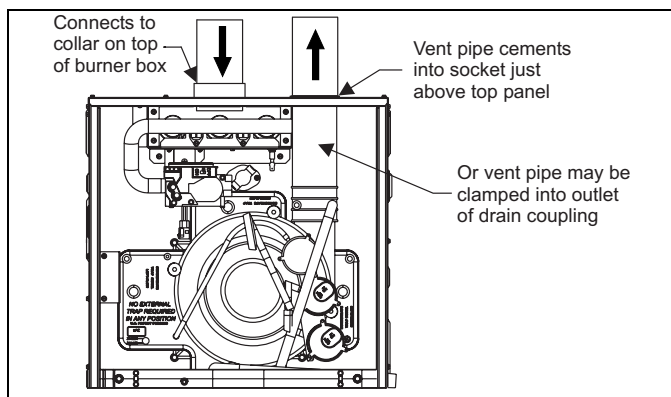

FIGURE 35: Direct Vent Air Intake Connection and Vent Connection
1. **OUTDOOR COMBUSTION AIR:** This is a direct vent configuration where the combustion air is supplied through a PVC or ABS pipe that is connected to the PVC coupling attached to the furnace and is terminated in the same atmospheric zone as the vent. This type of installation is approved on all models. Refer to Figure 35.
This installation requires combustion air to be brought in from outdoors. This requires a properly sized pipe (Shown in Figure 35) that will bring air in from the outdoors to the furnace combustion air intake collar on the burner box. The second pipe (Shown in Figure 35) is the furnace vent pipe.